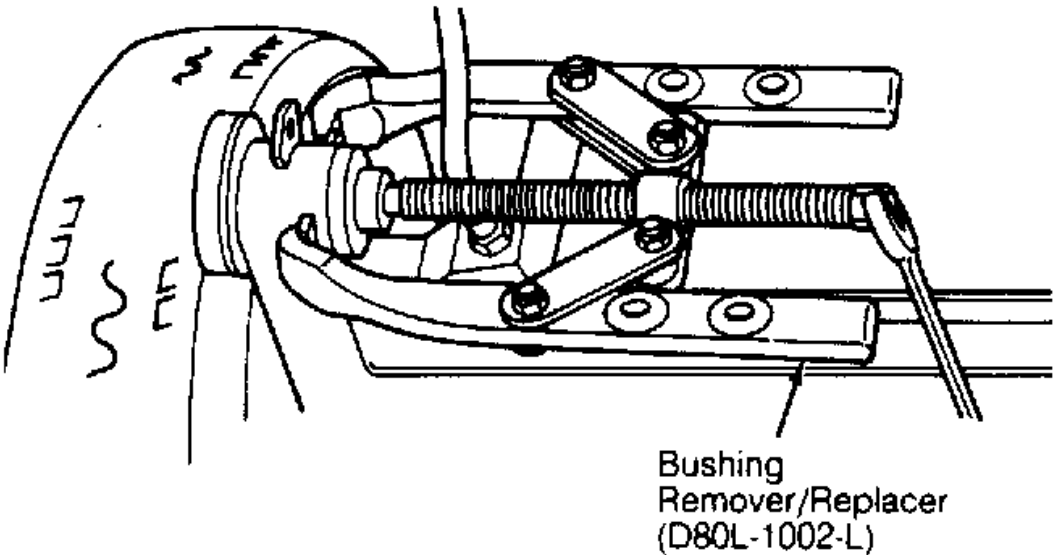

Fig. 6: Removing Torsion Beam Bushing
3. Using piece of wood, block beam in disengaged position. Using Bushing Remover/Replacer (D80L-1002-L), remove bushings from inboard side of torsion beam arm. See Fig. 6 .